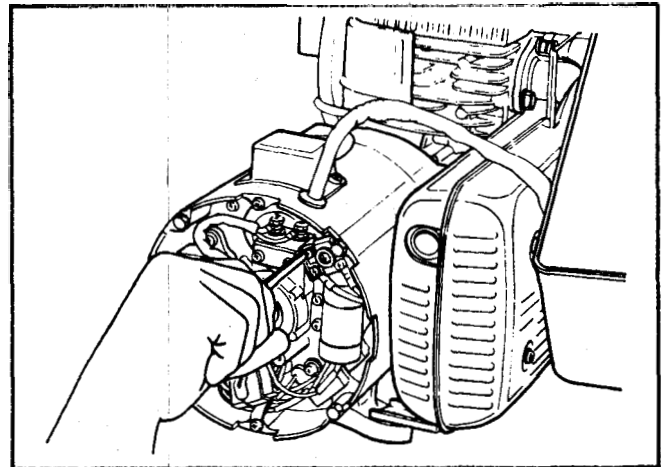

Figure 55
6. Disconnect and remove the AC output wires at the terminal block. See Figure 55.
7. Disconnect the control wiring plug on the top of the generator assembly. See Figure 55.